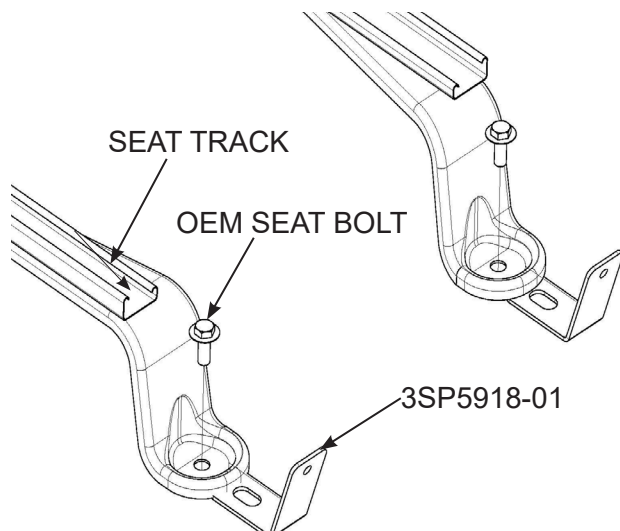

Fig. 4
- A. Loosen the back OEM bolts of the passenger seat rails, then push and lift on backside of the seat to slide the (3SP5918-01) seat protector floor bracket underneath the seat aligning the slots with the OEM bolts before tightening them back in place. (See Fig 4)